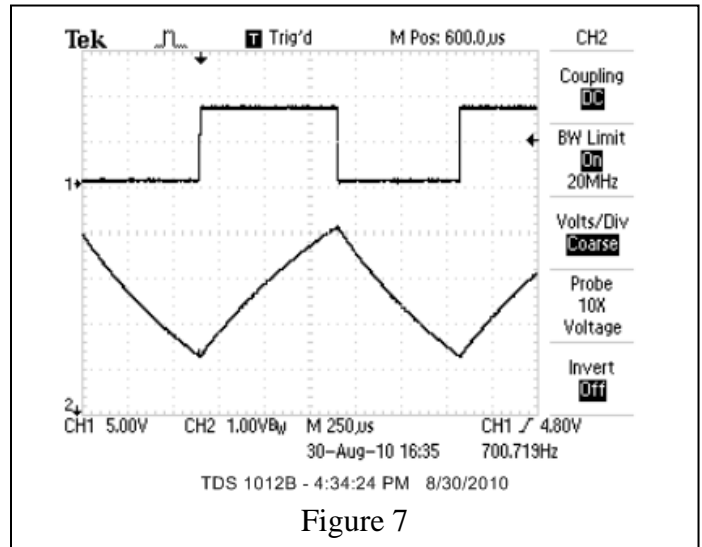

Figure 7
**555 Timer operation.** Basically, the 555 timer is designed to change the output state in response to the changes to the input to the device. Refer to figure 7 which is an oscilloscope display of the input and output of the 555 timer. The bottom trace is the input voltage applied to pins 2 and 7 (the comparator inputs), this voltage is generated by the RC circuit. Notice that the voltage rise (charging cycle) and the voltage fall (discharging cycle) follow the logarithmic functions above. The top square wave trace is the output pin 3. By design, if the voltage applied to the inputs of the internal comparators is less than  $1/3V_{cc}$ , the output will be low or zero volts. As the input voltage rises above  $1/3V_{cc}$  up to  $2/3V_{cc}$ , the output flips high ( $V_{cc}$ ) and remains high. As the input voltage rises just above  $2/3V_{cc}$ , the output flops low or 0 volts. As the input voltage falls below  $2/3V_{cc}$  down to just above  $1/3V_{cc}$ , the output remains low. Finally, as the voltage falls just below  $1/3V_{cc}$  and begins to rise again, the output flips to the high state to complete one cycle of oscillation. The rate of the input voltage change is determined by the RC constant of the resistor-capacitor circuit connected to the input pins of the 555 timer and the switch between charging and discharging of C2 is the result of flipping the internal switch (the transistor) of the 555 timer. Let's take a closer, step by step look and the internal logic of the device as a function of time.